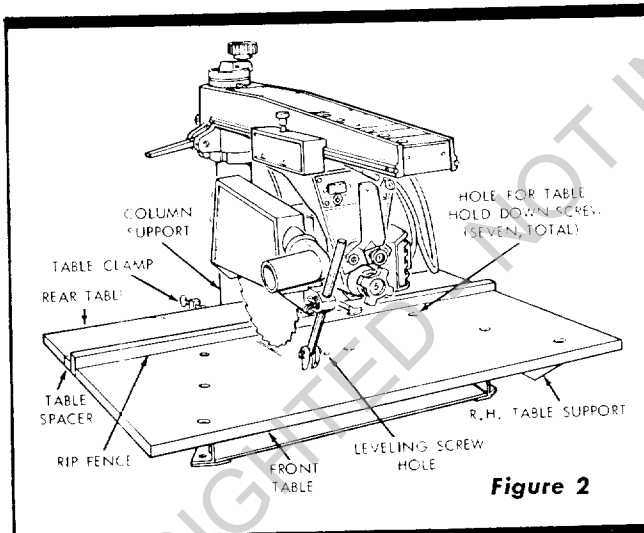
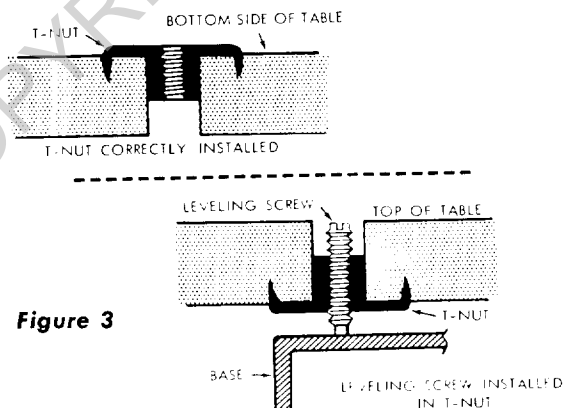

Figure 2
Figure 3
1. Place the large table board upside-down on floor. Distinguish between the one through-bored (leveling screw) hole near the center of the board, and the seven counterbore holes. (See figure 2.) The counterbores are in the top surface of the board. Drive the T-nut into the through-hole. (See figure 3.)
16. Install the table clamps at locations shown in figure 2 and tighten them firmly against the edge of rear table.